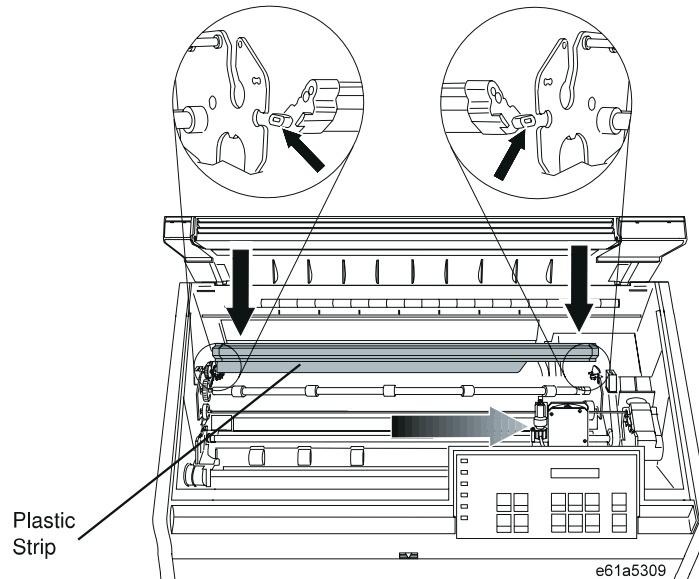

Figure 26. Installing the Paper Bail
- Using care not to damage the plastic strip on the paper bail, insert the ends of the bail into the printer frame as shown in Figure 26.